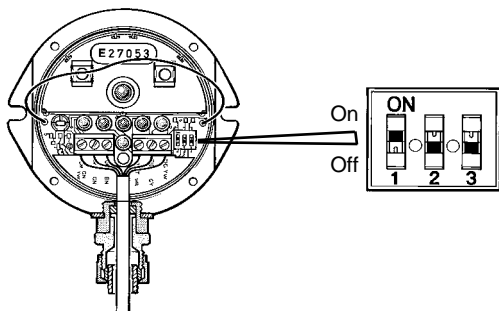

Figure 3 – OMM range selection switch
3. Referring to Figure 3, note the switch settings of the OMM range selection switch on the PCB so that these can be duplicated when fitting the new, replacement PCB.